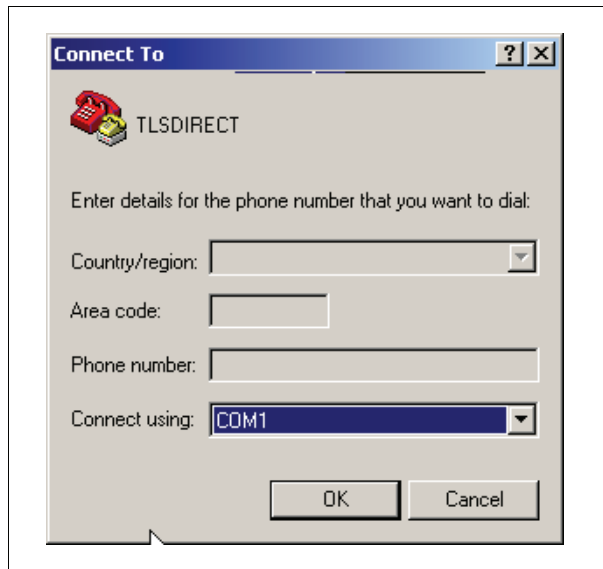

Figure 13. Connect To window
4. When the Connect To window appears (Figure 13), depending on your connection method, select either COM1 (If RS-232 port on laptop), USB-Serial Controller (if using USB port on laptop), or Serial I/O PC Card (if using PCMCIA port on laptop) in the 'Connect using' drop down box, then click OK button.